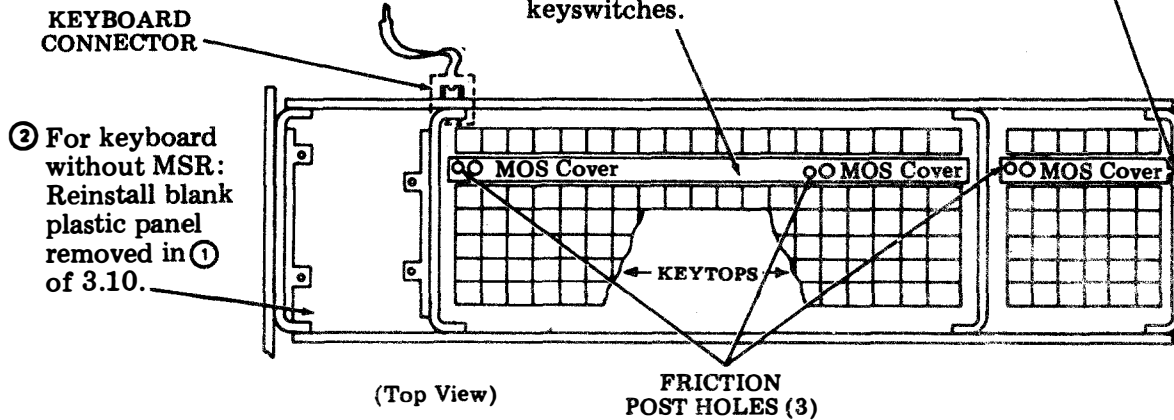

Fig. 13
3.11 Reassembly, see Fig. 13:
① Install MOS covers as shown: